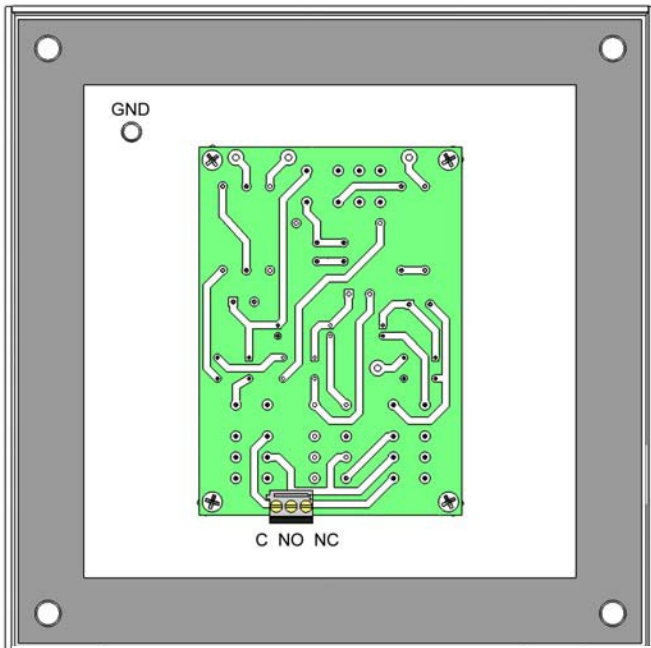

Figure 2 For models with a pre-installed alarm cable.
- Both normally open and normally closed contacts are available on the terminal block on the alarm PCB. See Figure 2 for connection location for common (C), normally open (NO), and normally closed (NC). Contacts are in energized mode.
Each All Mode product has remote monitoring capability with a set of dry Form-C contacts see Figure 2. Systems that incorporate a transfer switch and two surge protection devices will normally have one surge protector that is not powered creating a false alarm condition. To eliminate the false alarm condition and provide a single NC pair, please make the following connections: